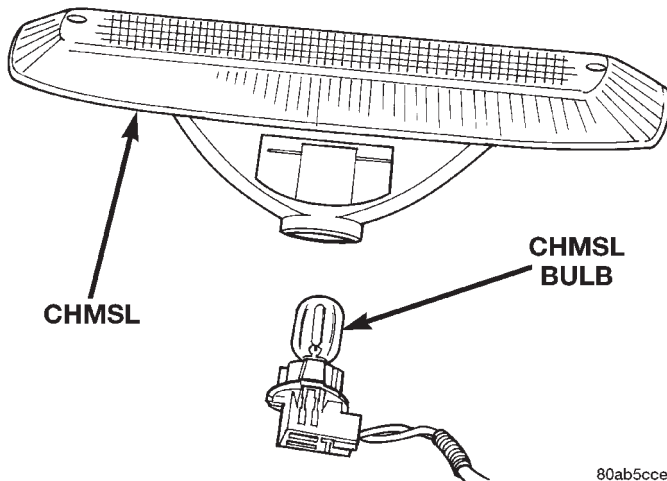

Fig. 4 CHMSL Bulb
- (1) Remove screws attaching lamp housing to liftgate.
- (2) Rotate bulb socket 1/4 turn and pull from housing (Fig. 4).
- (3) Grasp bulb and pull from socket.